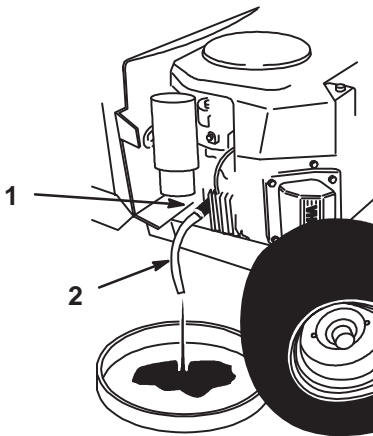

Figure 21
5. Place a pan below the oil drain. Open the drain by turning counterclockwise, 1/8 turn. and pull out (Fig. 21).